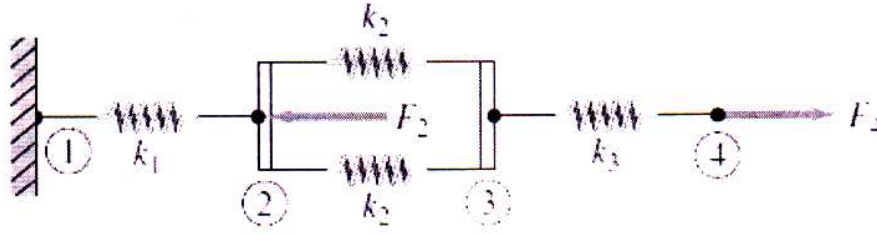

Figure 2
- Q4) a)** Solve for the displacements and the reaction force at node 1 as shown in figure 2, if $k_1 = 4 \text{ N/mm}$, $k_2 = 6 \text{ N/mm}$, $k_3 = 3 \text{ N/mm}$, $F_2 = -30 \text{ N}$, $F_3 = 0$, $F_4 = 50 \text{ N}$ using minimum potential energy approach. [9]